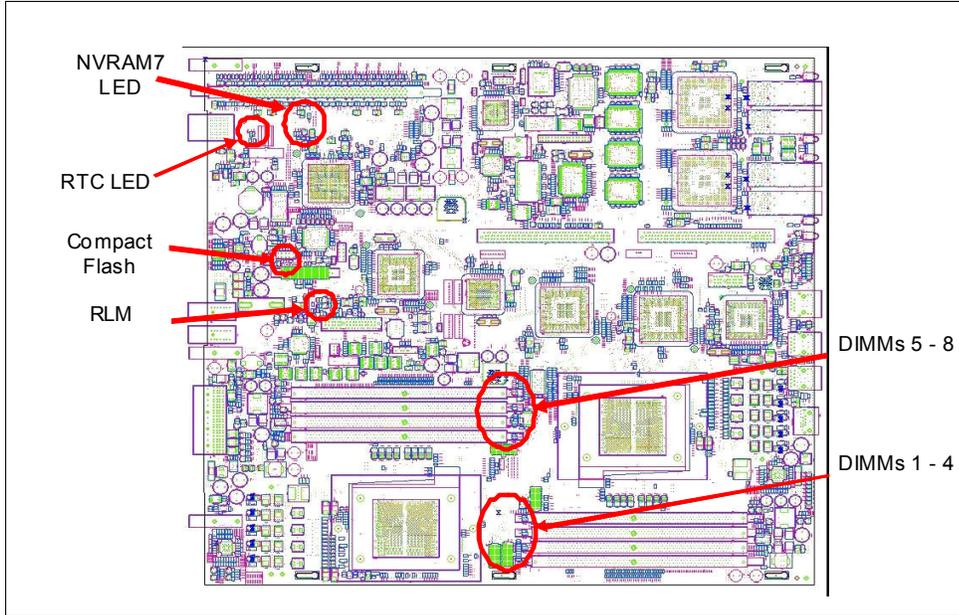

Figure 1-23 Internal LEDs
There are several internal FRU LEDs (Figure 1-23 on page 26) backed by a *super-cap*, which remains lit for 5 to 10 minutes after power is removed (that is, to remove the controller from the chassis).
- ▶ As identified in Figure 1-23, the main controller board has: